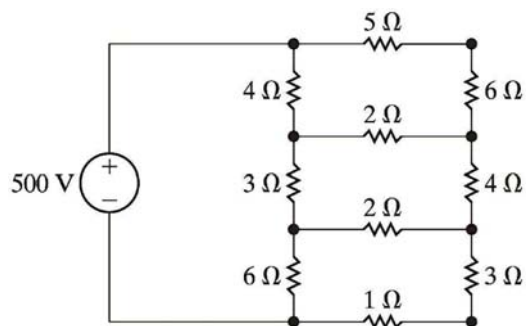

Figure 3
- (a) Use the node-voltage method to find the power dissipated in the  $5\ \Omega$  resistor in the circuit in Fig. 3.